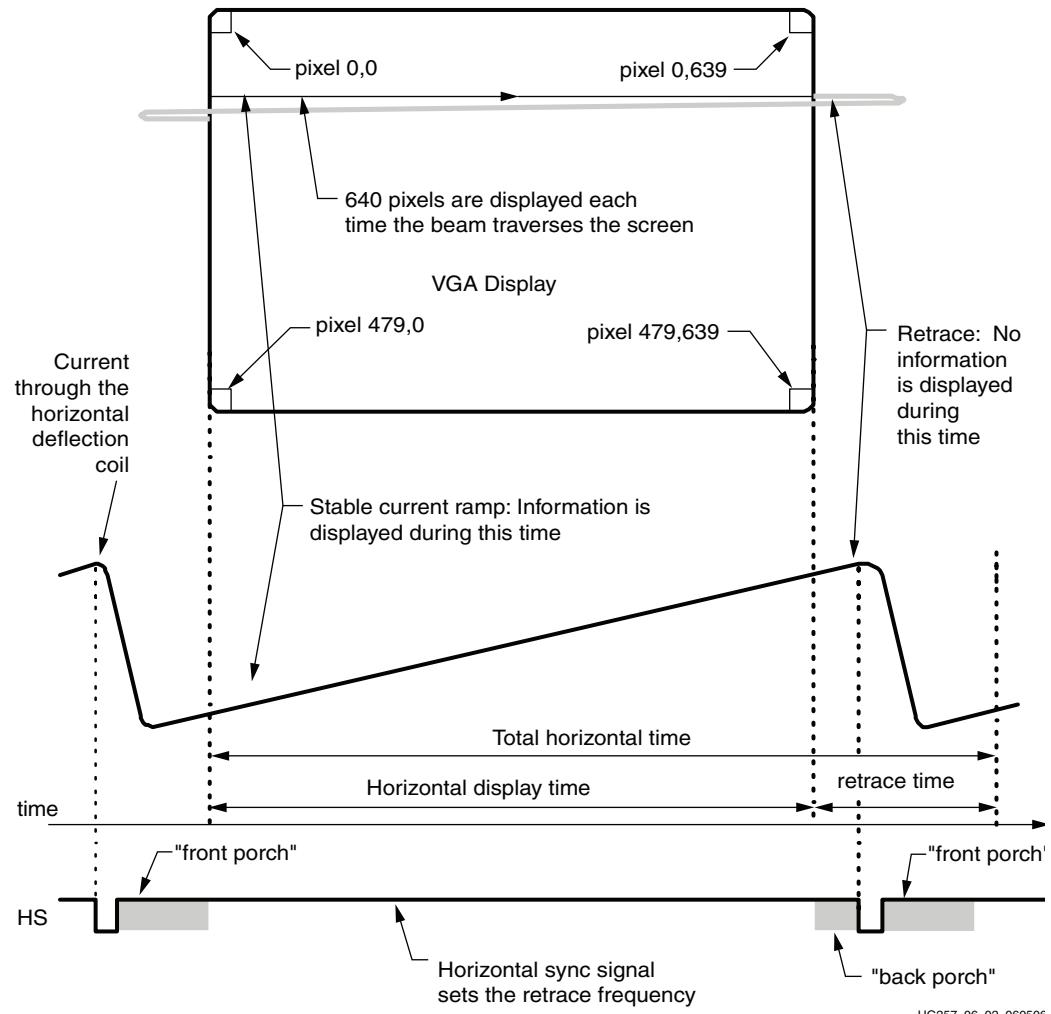

Figure 6-2: CRT Display Timing Example
Within a CRT display, current waveforms pass through the coils to produce magnetic fields that deflect electron beams to transverse the display surface in a *raster* pattern, horizontally from left to right and vertically from top to bottom. As shown in Figure 6-2, information is only displayed when the beam is moving in the *forward* direction—left to right and top to bottom—and not during the time the beam returns back to the left or top edge of the display. Much of the potential display time is therefore lost in *blanking* periods when the beam is reset and stabilized to begin a new horizontal or vertical display pass.
As shown in Figure 6-2, the VGA controller generates the horizontal sync (HS) and vertical sync (VS) timings signals and coordinates the delivery of video data on each pixel clock. The pixel clock defines the time available to display one pixel of information. The VS signal defines the *refresh* frequency of the display, or the frequency at which all information on the